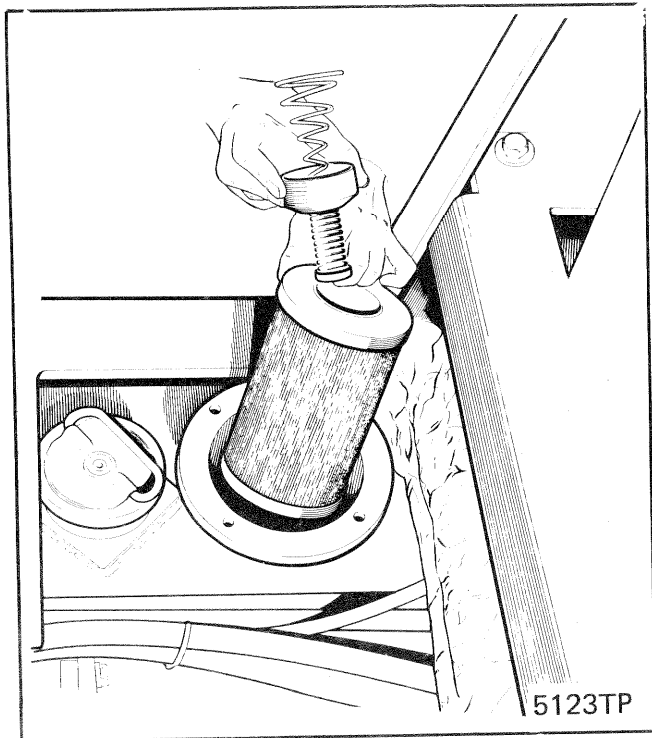

Fig. 11-2 Hydraulic Reservoir Filter
**Service the Hydraulic Reservoir Filter** — The main hydraulic system is protected by a full flow 10 micron replaceable element type filter, located on the top side of the hydraulic reservoir. (See Fig. 11-2). All fluid returning to the reservoir passes through the filter, providing clean fluid for distribution throughout the system.